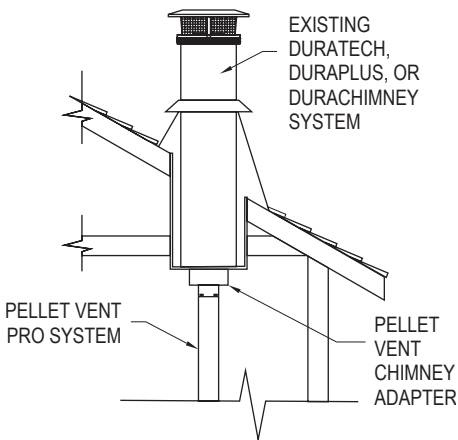

Figure 7
6. If it is desired to attach to an existing 6", 7" or 8" DuraTech, DuraPlus or DuraPlus HTC chimney, either roof supported, or ceiling supported: **(Figure 7).**
C. Install a DVL/DuraBlack Chimney Adapter - product stock numbers (6") 8674, (7") 8774, or (8") 8874 - in the existing ceiling support box, as shown in **Figure 7**. Note that the DVL/ DuraBlack Chimney Adapter only connects to Simpson Dura-Vent chimney systems.
E. Connect the appliance to the Chimney Adapter using an Appliance Adapter, lengths of pipe as required, and an Adjustable Length pipe. Slide the Adjustable Length down over the top pipe section, position the installation vertically plumb, then slip the Adjustable Length up and twist lock it to the Chimney Adapter. Once all the components are firmly seated and properly aligned, carefully drill three 1/8" diameter holes through the outer sleeve only in the center of the slots located at the bottom of the Adjustable Length pipe. Do not penetrate the inner liner. Use (3) 1/4" length sheet metal screws to secure the Adjustable Length pipe. The completed installation will look like **Figure 7**.